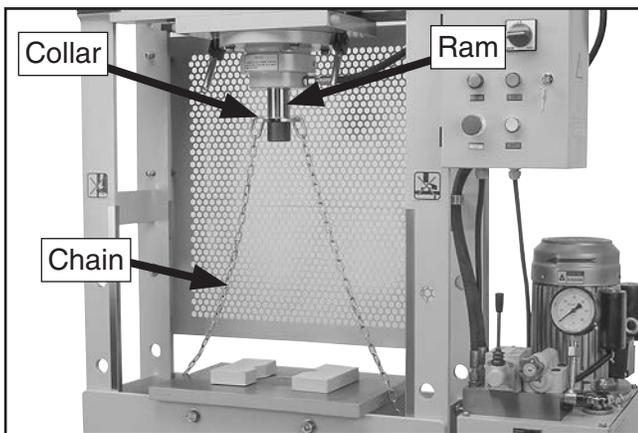

Figure 15. Lifting chain collar attached to ram.
1. Completely lower ram and loosen ram head enough to mount lifting chain collar in center of ram head (see **Figure 15**).